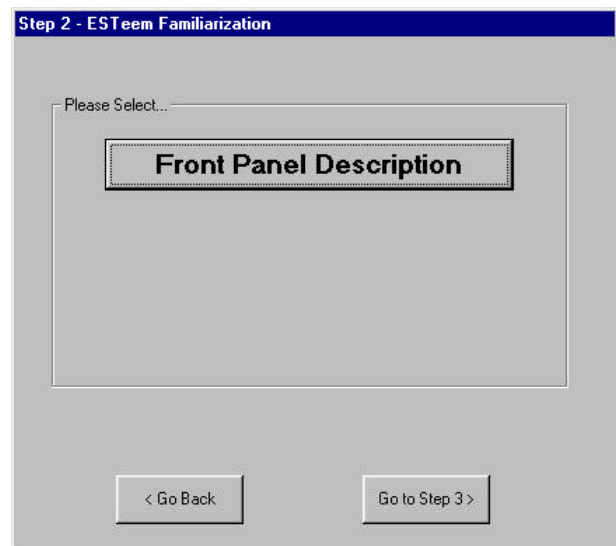

Figure 6: Step 2 – ESTeem Familiarization
3. Step 2 – ESTeem Familiarization window will be displayed (Figure 6). This step will explain the connections to ESTeem Model 192 front panel. See Figure 1 for a setup diagram.